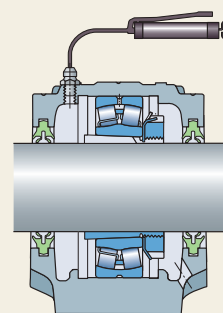

Fig. 2
- relubrication through holes in the centre of the inner or outer ring (fig. 2, page 114)